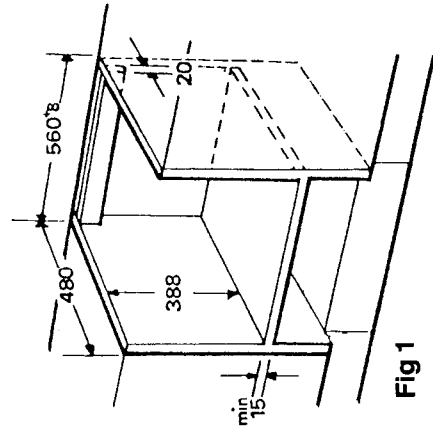
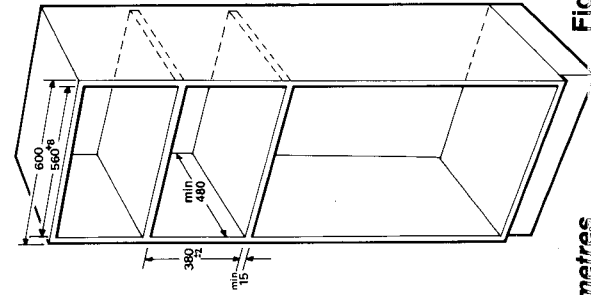

Fig 1
Fig 2
- a. The oven must only be built in using the specially designed kit Model No 6070B (Mink Brown) or 6070W (Polar White) available from Hotpoint retailers. Figures 1 and 2 below, are given for planning guidance only. For full details please refer to the instructions supplied with the 6070B/6070W built in kit.
- b. The Combination Oven can be built under a worktop, Figure 1, or built in at eye level in a tall housing unit, Figure 2.